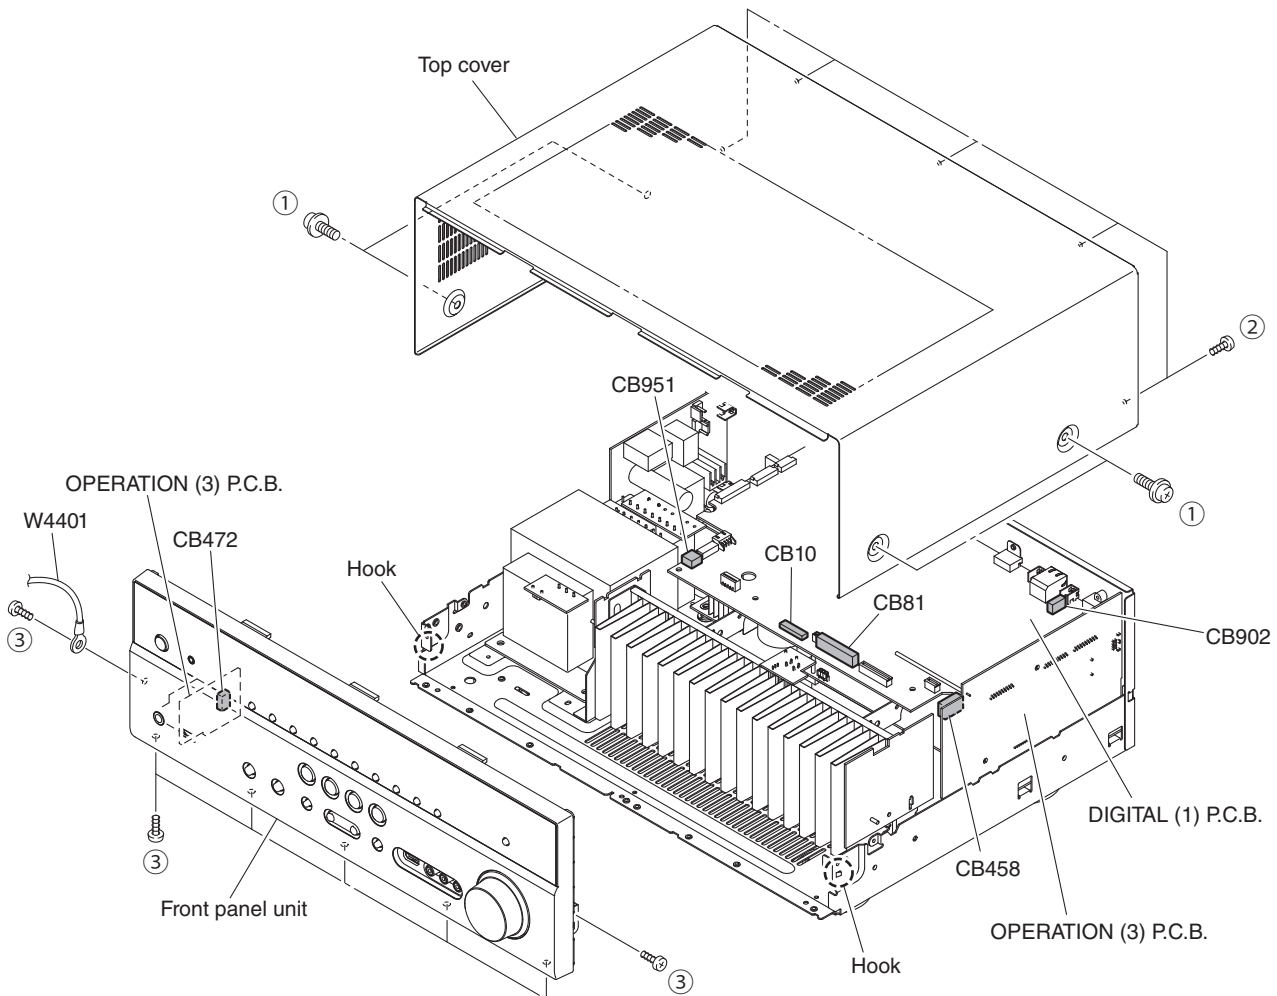

Fig. 1
- a. Remove 4 screws (①) and 5 screws (②). (Fig. 1)
- a. Remove 7 screws (③), and remove W4401. (Fig. 1)
- b. Remove CB10, CB81, CB458, CB472, CB902 and CB951 (Fig. 1)
- c. Release 2 hooks, and remove the front panel unit. (Fig. 1)